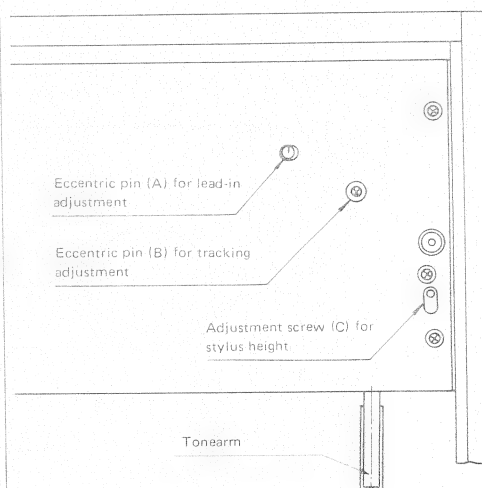

Fig. 20 Viewed from top
- (1) Set turntable ready to play with a record disc and tonearm at rest position, and then switch off the power.
- (2) Adjust height of stylus within 4-6mm (normal 5mm) from surface of disc by turning adjustment screw (C) (See Fig. 20)
- (1) Use special test record disc of NEC-1008 which having diameter of 17 cm (EP).
- (2) Adjust eccentric pin (A) (Fig. 20) so that lead-in count becomes 11 to 30 counts. (172 ~ 168.25 mm radius from the center)
- (3) 30 cm (LP) lead-in position is fixed by the adjustment for 17 cm (EP) automatically.